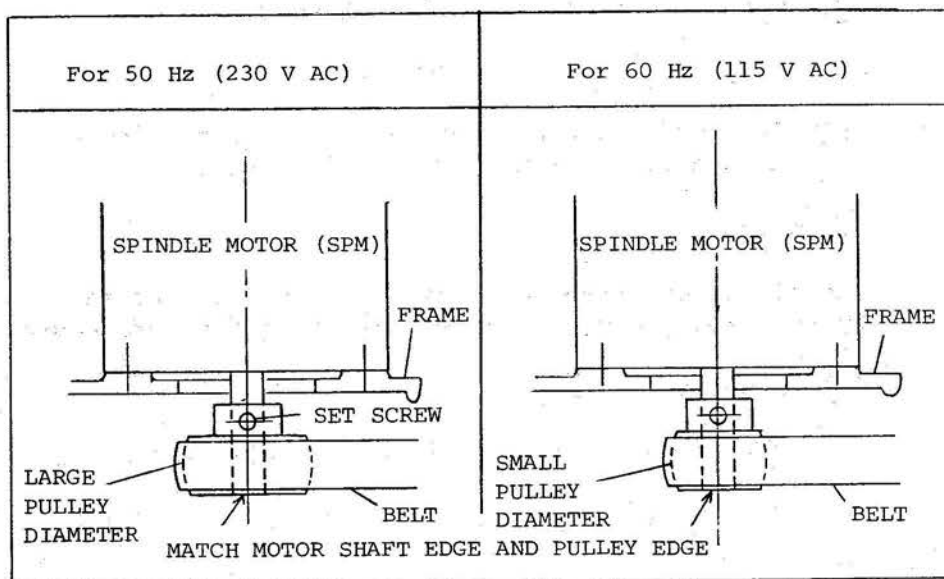

Figure 7
- ① Confirm that a pulley is mounted as shown in figure 7 and that the pulley is correct for the AC power frequency. (A motor pulley for 60 Hz is set for 115 volts and that for 50 Hz is set for 230 volts.)
- ② If the frequency of the power supply changes, change to the motor pulley suiting the new frequency as follows:
- (d) Install a pulley (motor pulley) for the **new** frequency on the motor shaft. The pulley direction and position at this time shall be as shown in figure 7.